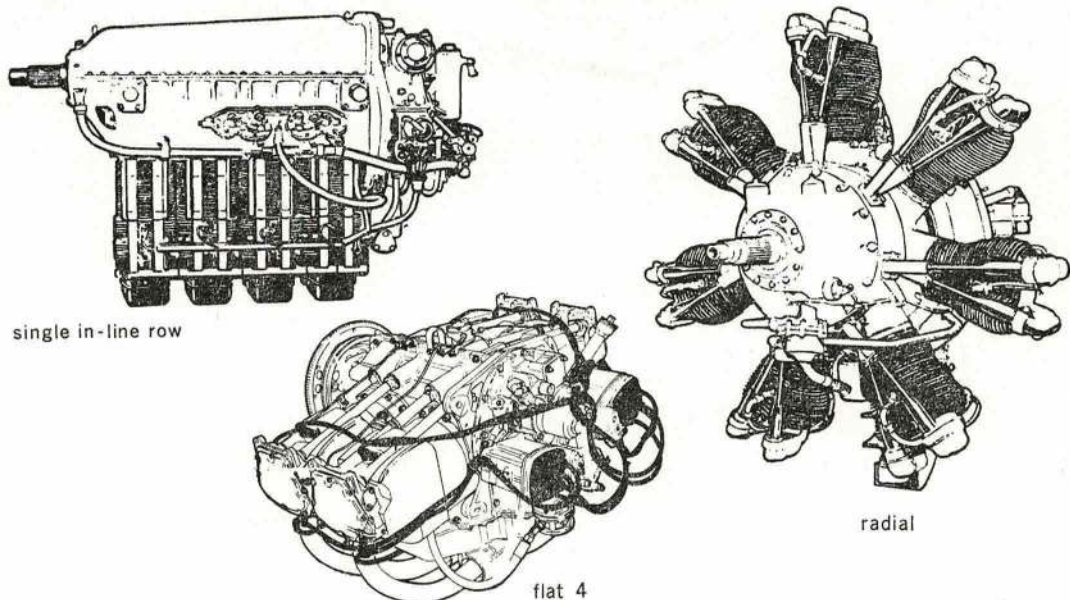

Fig 1.1.6 Cylinder arrangements
20. There are several arrangements for multi-cylinder engines. The most common, illustrated at Fig 1.1.6 are: